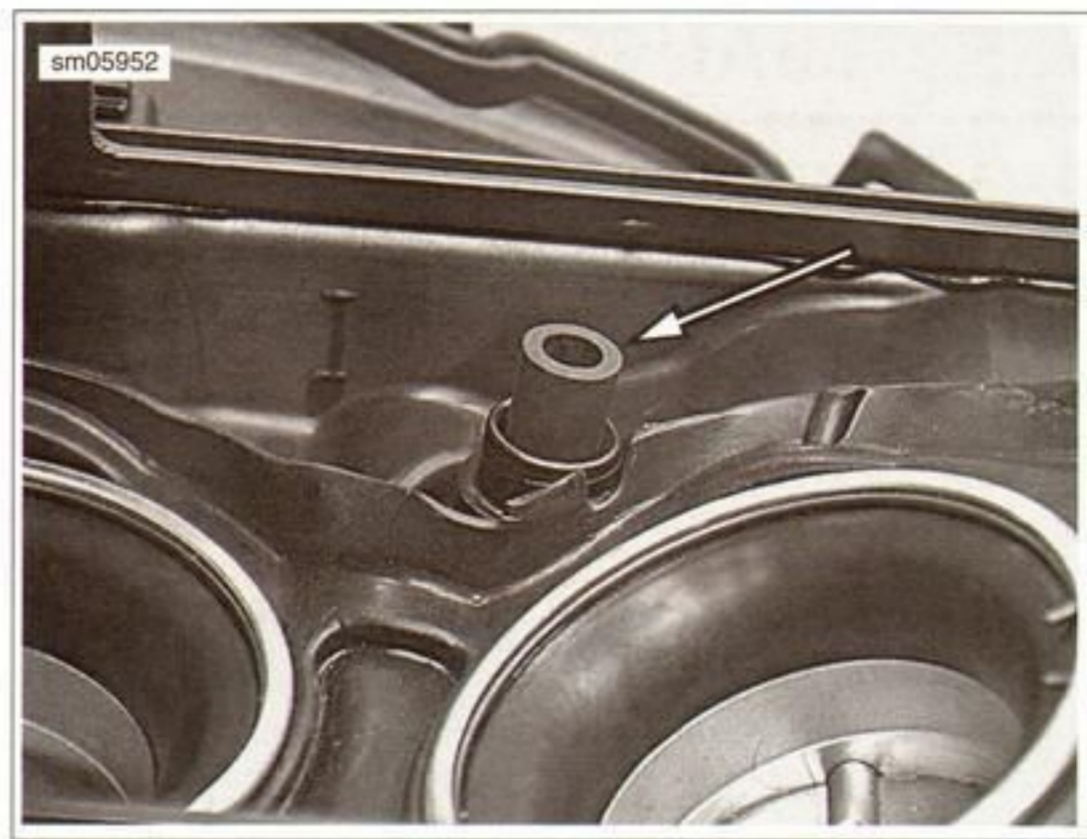

Figure 4-5. IAC Tube
2. Fit the throttle mount gasket (3) to the baseplate. Verify seal around the perimeter of the mount gasket.
5. See Figure 4-5. Work the IAC air vent tube up through the baseplate and leave approximately 10 mm (0.40 in.) extending above the plate.